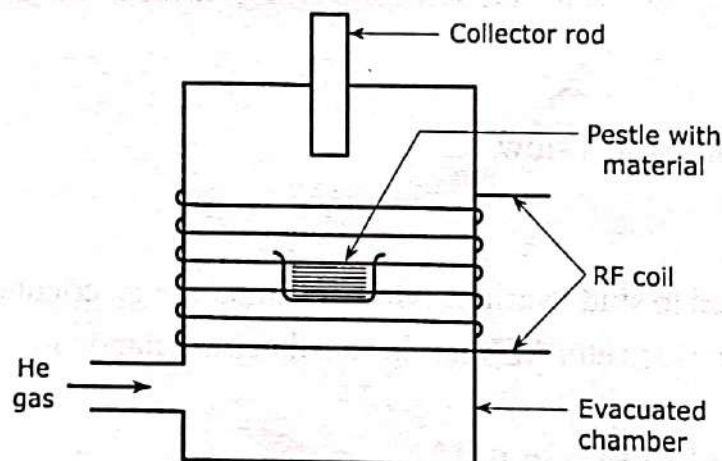

Fig. 5.7 : RF Plasma
- ✦ In this technique the bulk material is kept in a pestle which is kept in an evacuated chamber as shown in Fig. 5.7.